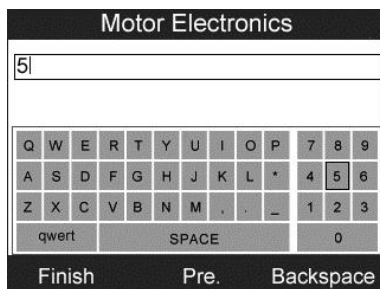

Figure 13.21
**[Show]**: Press this key to pop up a soft keyboard to facilitate your input. (Figure 13.21)